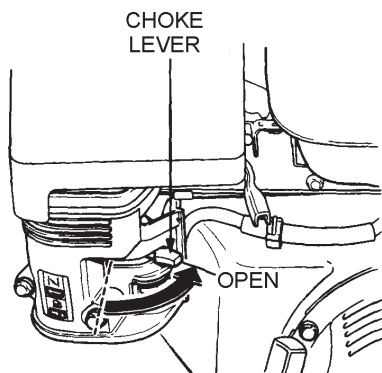

Figure 14. Engine Choke Lever (Open)
3. Place the *choke lever* (Figure 14) in the "**OPEN**" position if starting a **cold** engine.